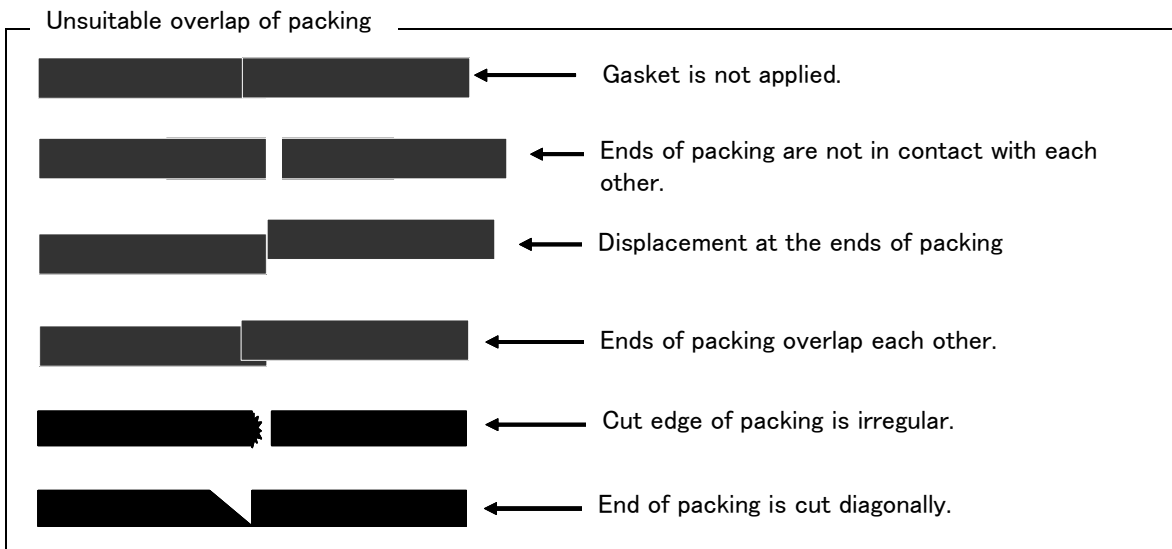

Fig.5-6 : Examples of packing overlaps
- 3) Extra length is included for each packing piece used on the cover where two or more pieces are attached to one place. Stick packing in the following procedures. For more information, see "Fig.5-6 : Examples of packing overlaps". Examples of improperly treated cut edge are shown, as well.